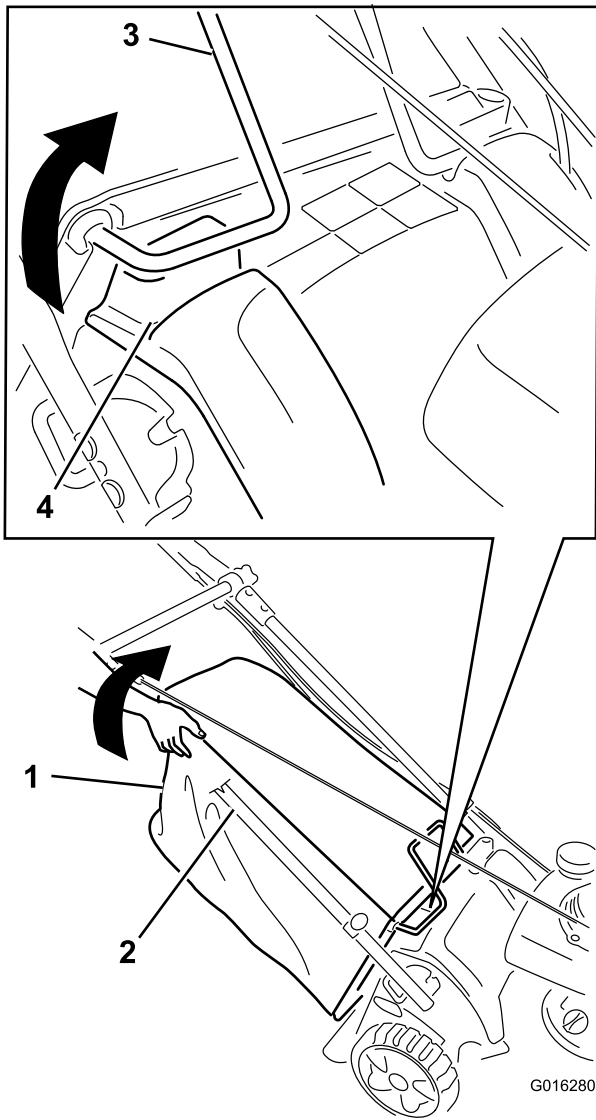

**Figure 51**
2. Move the handle all the way forward and loosen the upper handle knob (Figure 51).